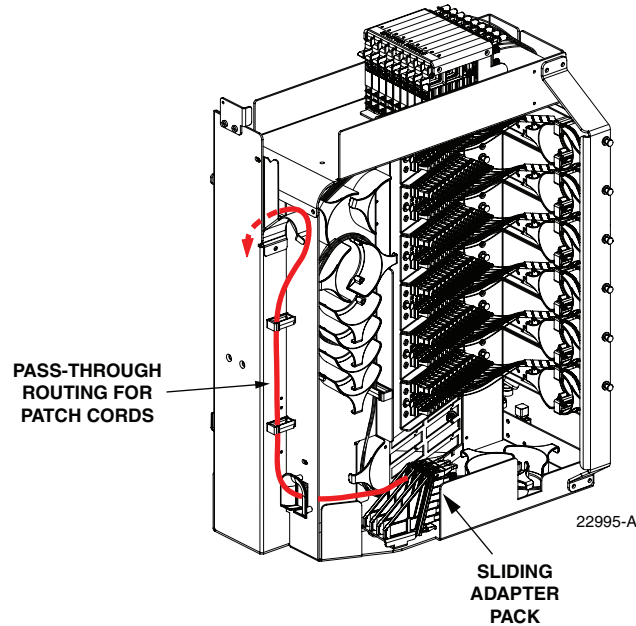

Figure 44. Routing Pass-Through Patch Cord From Sliding Adapter Pack
8. Route the pass-through patch cord to the front side of the swing-out assembly as shown in Figure 44.